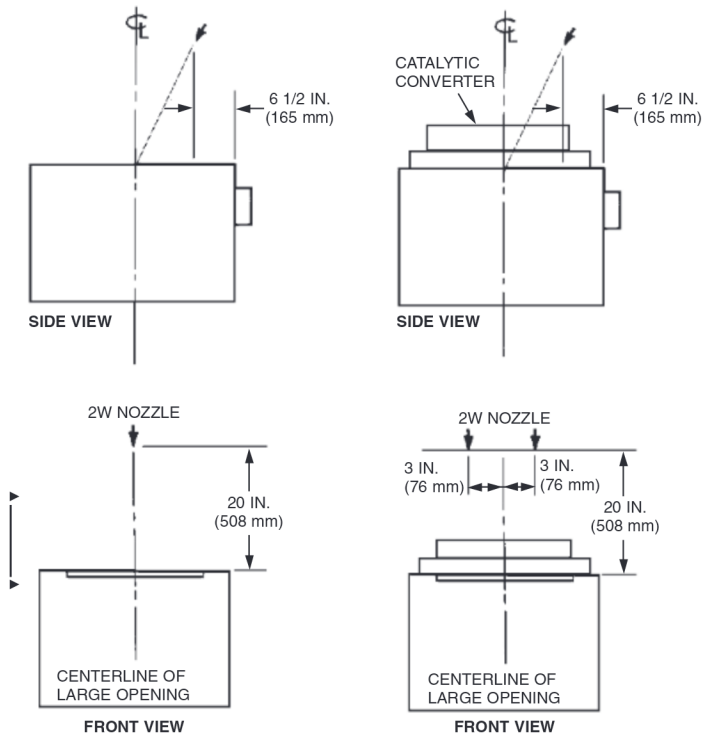

FIGURE 64a
- **Nozzle Quantity/Type:** (1) One 2W nozzle, Part No. 419337.
- **Nozzle Height:** 20 in. (508 mm) above top of appliance. See Figure 64a.
- **Nozzle Location:** 6 1/2 in. (165 mm) back from front edge of appliance. See Figure 64a.
- **Nozzle Aiming Point:** Aimed at center of opening. See Figure 64a.